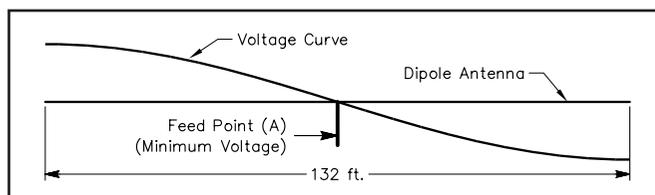

Figure 1—The voltage distribution along an 80-meter dipole antenna. Note that the voltage is at maximum (with respect to ground) at the ends of the antenna.
The easiest way to explain how the Clothesline works is to lead you through the simple reasoning I used to come up with the thing. I started with a drawing like the one in Figure 1. It shows a simple dipole for 80 meters. It's 132 feet long and fed in the middle with coax. Next I drew the graph of the voltage distribution along the antenna (at its fundamental resonant frequency). Note the voltage is at a maximum (with reference to ground) at the antenna ends. That's important for any dipole radiator. The ends of the antenna have to correspond to the high voltage points of the curve.
Figure 2—Take the 80-meter dipole shown in Figure 1 and overlay the voltage distribution for a 7-MHz signal. Note how the 7-MHz feed point (B) has shifted to the left of the 3.5-MHz feed point (A).